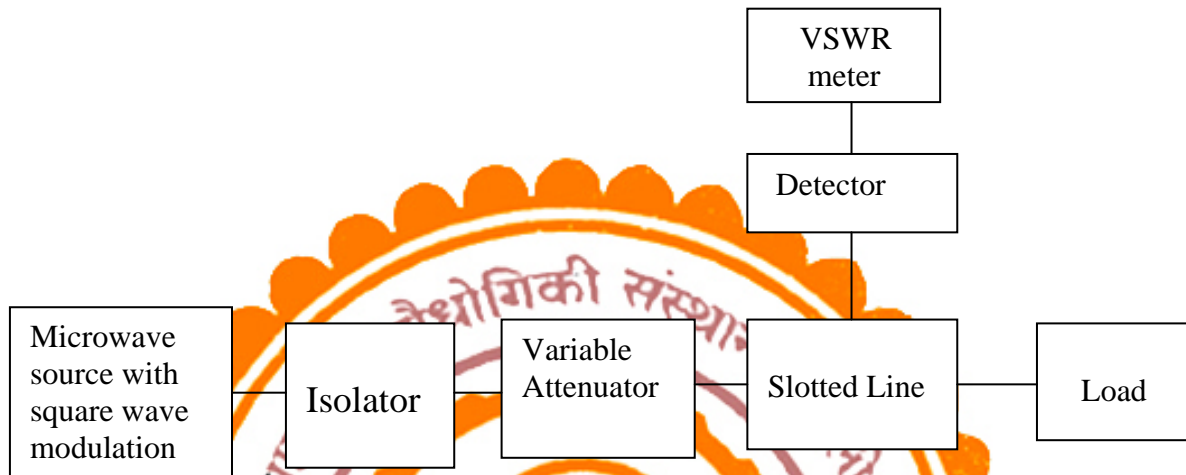

Fig 1. Experimental arrangement for measuring impedance
1. Set up the circuit as shown in the fig1.